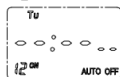

Figure 11
6.2.3.4 Continue to press “MD”, the screen will display  $2_{ON}$ ,  $2_{OFF}$  ...  $16_{ON}$ ,  $16_{OFF}$  on the left, set switch time and date model of other groups by referring to the above steps. For redundant time period, please press “R” to remove the time of other groups, so that the liquid-crystal display will show “- - - - -”, see Figure 11, and then, press “R” to recall.